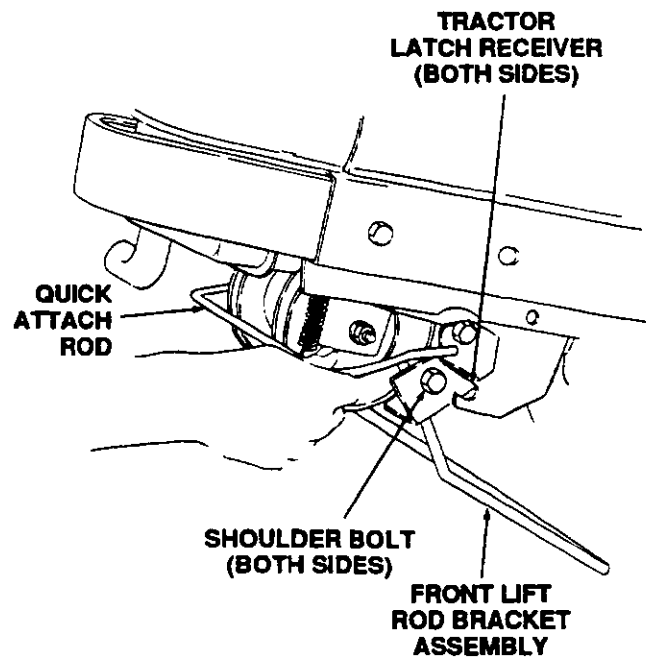

Figure 40
18. Referring to Figure 40, push downward and hold the tractor quick attach rod. Slide the left and right shoulder bolts of front lift rod bracket assembly forward, and free of, the left and right tractor latch receivers. Release tractor quick attach rod so it is held against the tractor frame by the spring.